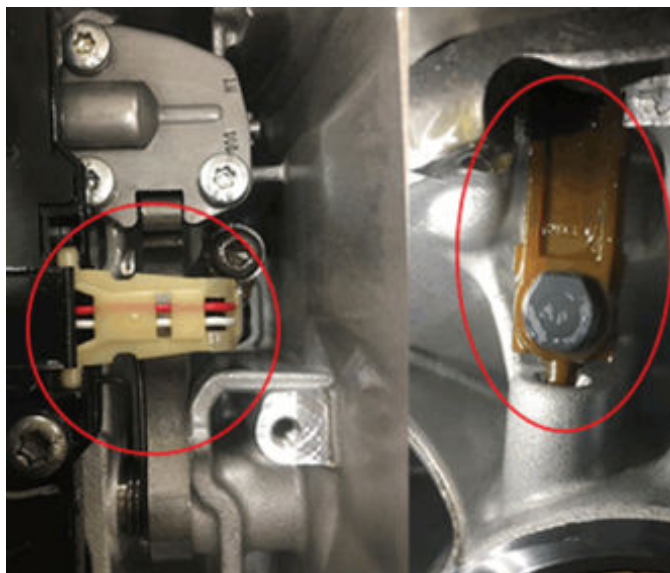
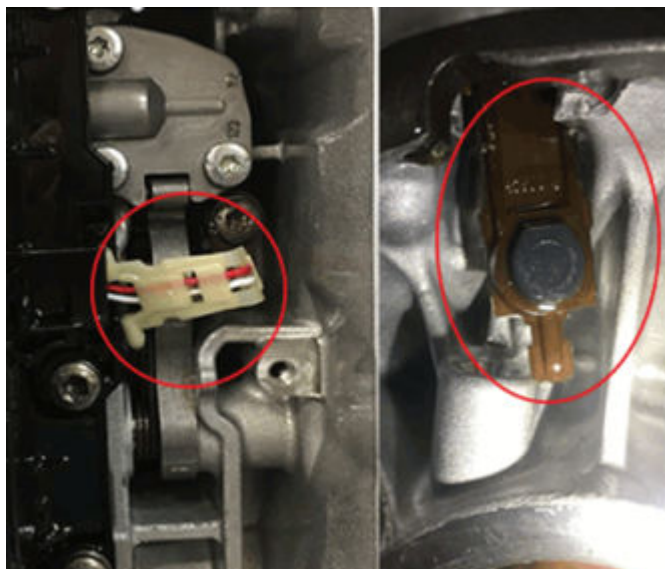

Fig. 45
Fig. 46
67. When installing the OSS into the case, take care to position the OSS guide pin Fig. 45 or damage to the sensor may result Fig. 46.